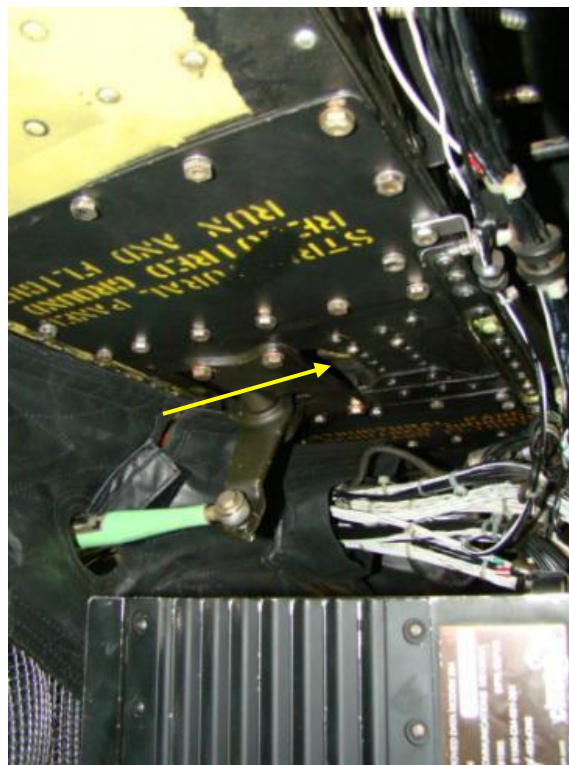

Figure 13, FS 123, Bulkhead Access
8. Insert probe forward of the P/N 206-001-734-103, Directional Control Bellcrank Support, and fish through the P/N 206-032-204-5, Bulkhead, at FS 123 (Fig 13). Inspect cavity forward to P/N 206-032-200-21, Thin Bulkhead, FS 120 for condition and security (Fig 10). Pay particular attention to the condition of the lower bulkhead flange (Fig 3). Inspect for the presents of cracks and correct blind fastener installation. Additionally, ensure the P/N 206-001-020-33, Connecting Link, does not bind at the bulkhead pass through (Fig 4).